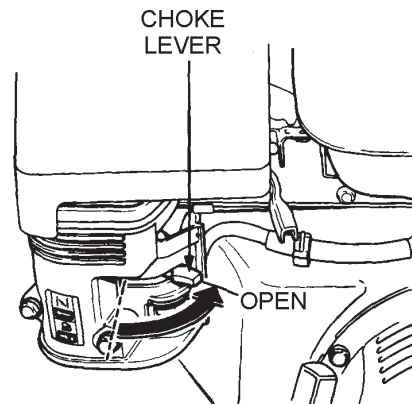

Figure 10. Engine Choke Lever (Open)
4. Place the **choke lever** (Figure 10) in the **OPEN** position if starting a **warm engine** or the **temperature is warm**.